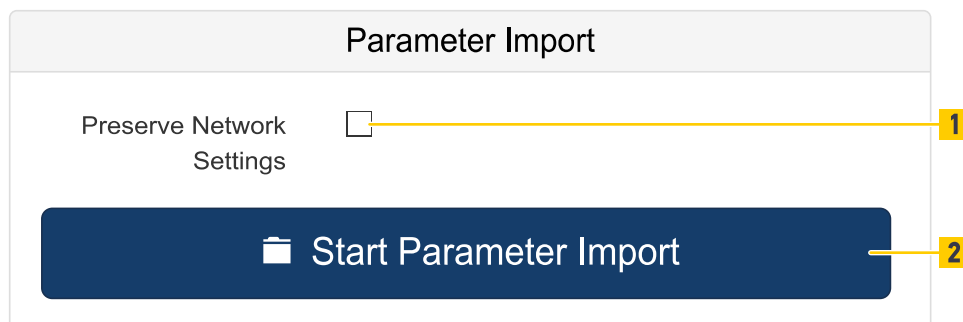

Fig. 144: Parameter Import
- If you want to keep the current network settings, then tick the Preserve Network Settings (Fig. 144 /1) checkbox.
- To start the upload click Start Parameter Import (Fig. 144 /2) and select the parameter file (*.tar.gz) on the PC.